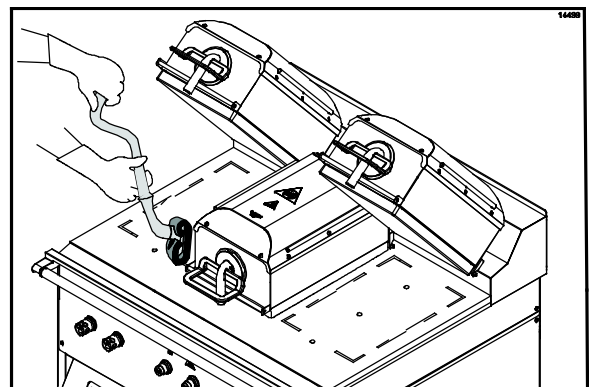

Figure 60
29. Apply the grill cleaner to both sides of the center platen. (See Figure 60.)